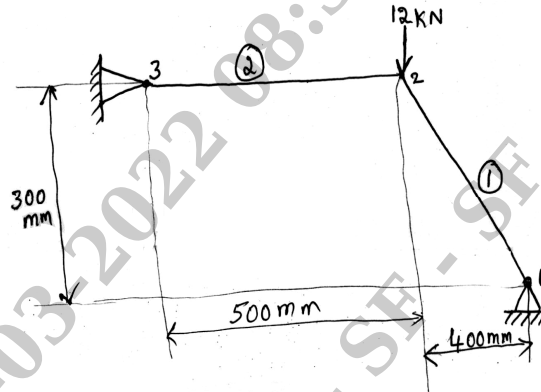

Fig Q6(b)
b. For the two bar truss shown in Fig Q6(b). Determine the nodal displacement and stresses in each element. Take $E = 2 \times 10^5 \text{ N/mm}^2$; $A = 200 \text{ mm}^2$